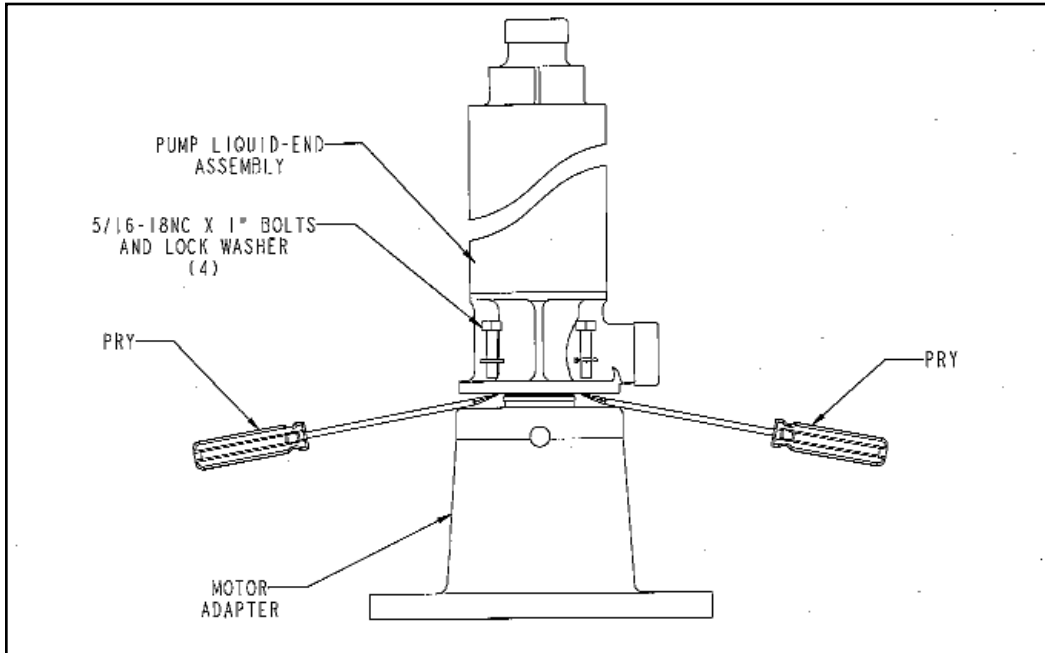
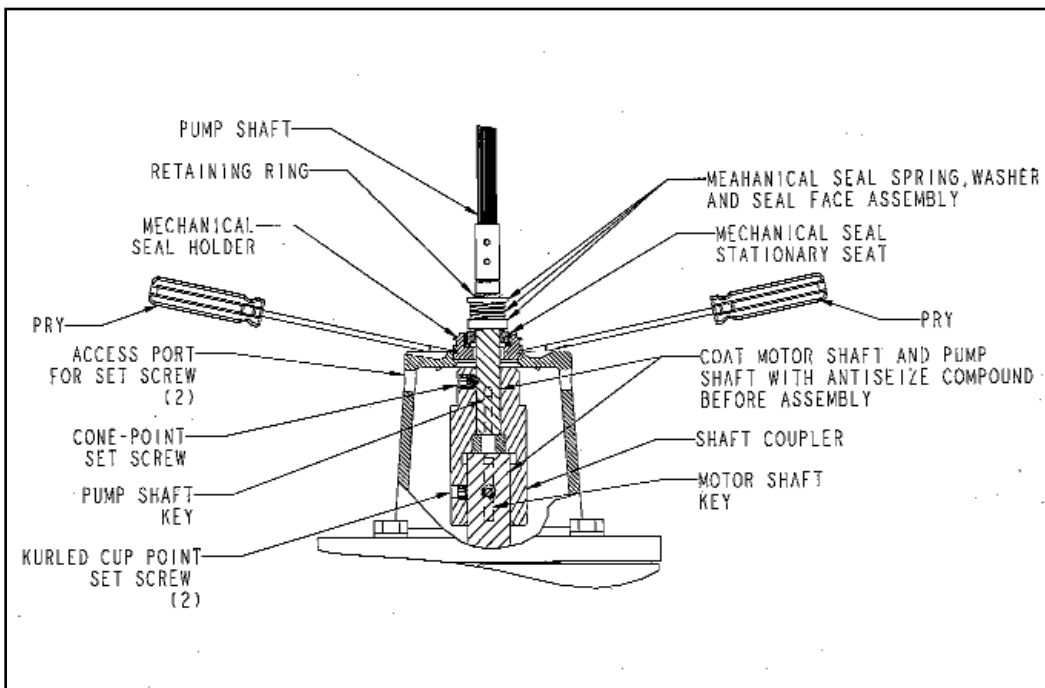
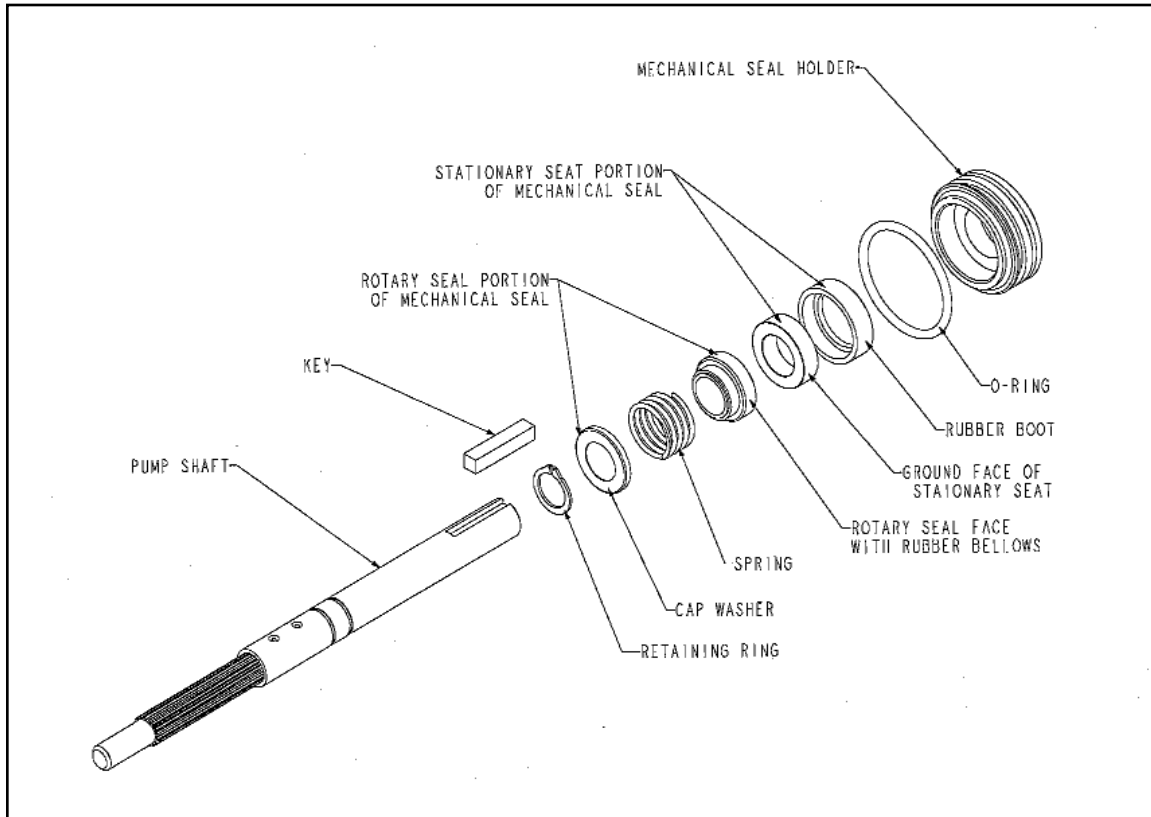

Figure 4.5
Figure 4.6
Figure 4.7
If this does not stop the leak, then the liquid end assembly needs to be partially removed to gain access to the mechanical seal as shown in Figure 4.5 (Removal of Pump Liquid-End from Motor Adapter) or Figure 4.6 (Removal of Mechanical Seal from Motor Adapter).
1. Remove the four (4) 5/16-inch bolts and lock washers from the inlet casting and firmly grasp the liquid end (Figure 4.5, Removal of Pump Liquid-End from Motor Adapter). Pull the liquid end straight off the pump shaft being careful not to bend the pump shaft. Two (2) flat-blade screwdrivers may be needed to remove the seal holder from the liquid end assembly.
3. Remove the rotary portion (spring, washer, and face assembly) of the seal assembly from the pump shaft by rotating and pulling the rotary portion until it slides off the pump shaft (Figure 4.6, Removal of Mechanical Seal Holder from Motor Adapter).
4. Remove the mechanical seal holder from the motor adapter by sliding the holder off the pump shaft. Two (2) flat-blade screwdrivers may be needed to remove seal holder from the motor adapter (Figure 4.6).
5. Remove the stationary seat of the mechanical seal from the cavity of the mechanical seal holder (Figure 4.7, Removal of Mechanical Seal from Pump Shaft and Cavity of Mechanical Seal Holder).
High pressure mechanical seals have the same basic design as standard mechanical seals. Replace them using the same procedure as denoted in Section 4.3 (Mechanical Seal Replacement SS500, SS1000 and SS1800 Series Pumps), Figure 4.6 (Removal of Mechanical Seal Holder from Motor Adapter), and Figure 4.7 (Removal of Mechanical Seal from Pump Shaft and Cavity of Mechanical Seal Holder).
6. Remove the four (4) 5/16-18NC bolts that hold the pump liquid end to the motor adapter.
8. Use two (2) flat-blade screwdrivers or small pry bars to remove the seal holder from the motor adapter along with the pump shaft (Figure 4.5, Removal of Pump Liquid-End from Motor Adapter). Remove the liquid-end assembly including the pump shaft as a unit.
9. Remove the four (4) 1/2-12NC bolts that hold the motor adapter to the motor and remove the motor adapter.
10. Loosen the two set screws that hold the shaft coupler to the motor shaft, and remove the shaft coupler. The motor may now be serviced by a qualified vendor or replaced (Figure 4.6, Removal of Mechanical Seal Holder from Motor Adapter).
7. Install the four (4) 5/16-18NC bolts and tighten.
8. Using a wood dowel, place it against the pump shaft end located in the discharge port. Tap on the end of the wood dowel until the pump shaft is fully seated in the shaft coupler, and then tighten the cone-point set screw (Figure 4.6, Removal of Mechanical Seal Holder from Motor Adapter).